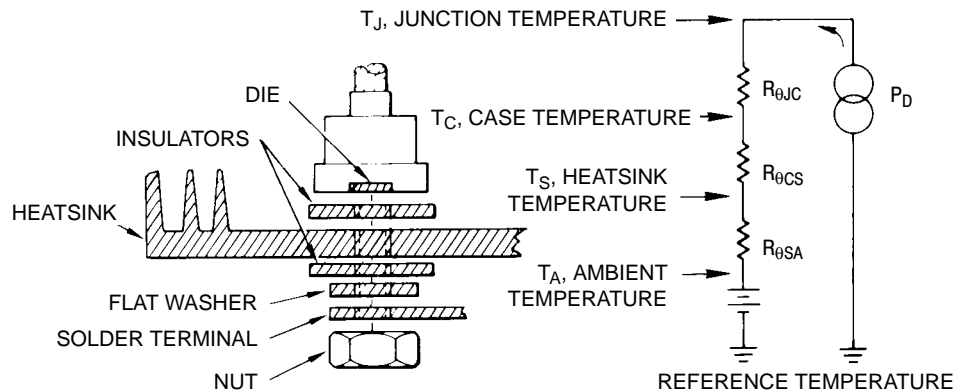

Figure 35. Basic Thermal Resistance Model Showing Thermal to Electrical Analogy for a Semiconductor
An analogy between Equation (2) and Ohm's Law is often made to form models of heat flow. Note that T could be thought of as a voltage thermal resistance corresponds to electrical resistance (R); and, power (q) is analogous to current (I). This gives rise to a basic thermal resistance model for a semiconductor as indicated by Figure 35.